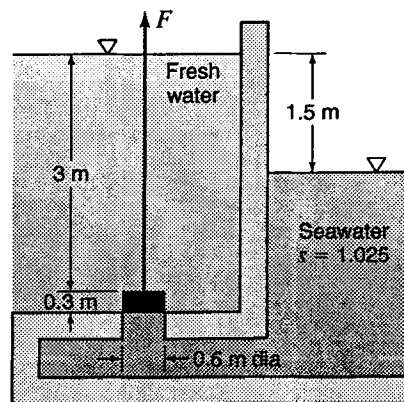

Figure X3.9.2
3.9.2 For the conditions shown in Figure X3.9.2, find the force  $F$  required to lift the concrete-block gate if the concrete weighs 23.6 kN/m3. Neglect friction.